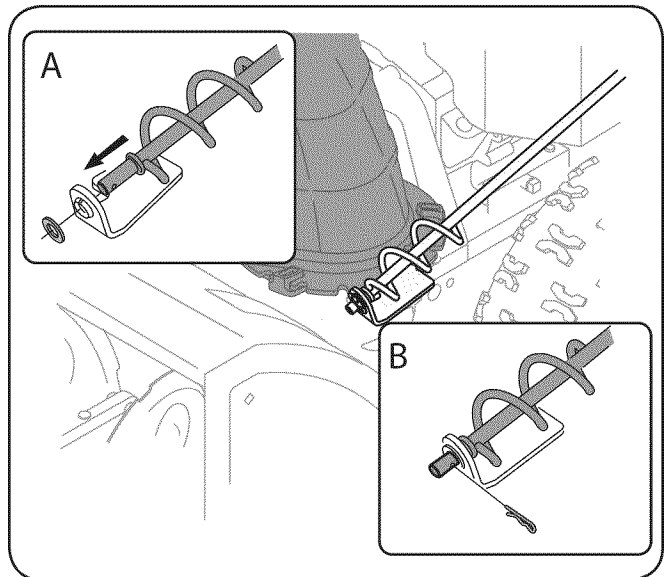

**Figure 3-20**
2. Close the flange keepers to secure the chute assembly to the chute base. The flange keepers will click into place when properly secure. See Fig. 3-20.